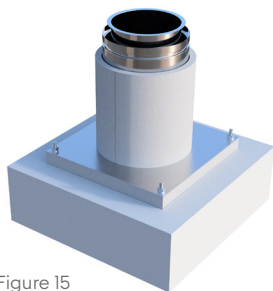

Figure 15
9. Using the supplied 100mm x 25mm blanket insulation strips, wrap the outer case of the vent from the base of the Top Plate and Drum (C) to a height of 300mm as Figure 15.